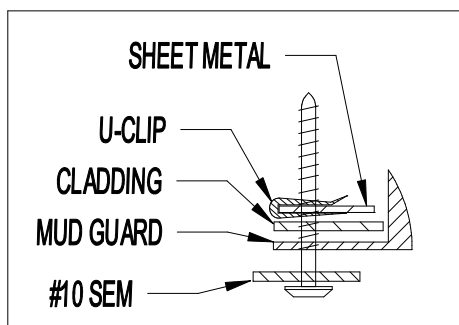

Figure 2
3. Attach mud guard to front fender with a #10 SEM screw at location B, thru mud guard, thru fender cladding, and into U-clip. Check fit and parallel and adjust accordingly before tightening (Figure 2).